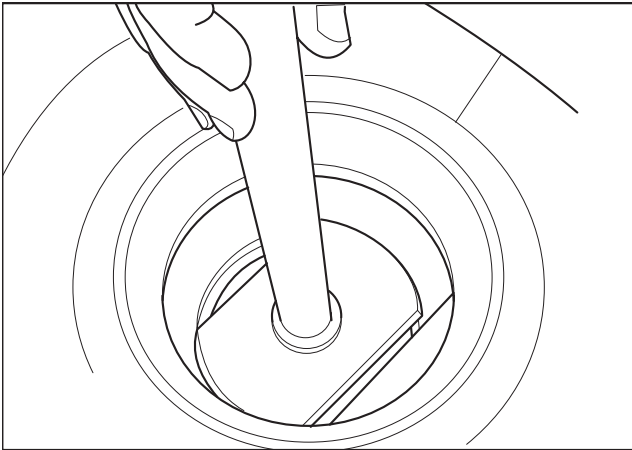

Fig. 2.26
26. Place service tool CT18 into carrier to remove outer bearing cup. (Fig. 2.26)